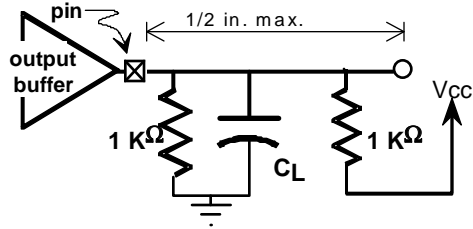

Figure 0-4: Load for testing output timings
- Outputs will be characterized and measured at the package pin with the load shown in Figure 0-4. Input signal slew rate will be measured between  $0.2V_{ddq}$  and  $0.6V_{ddq}$ .